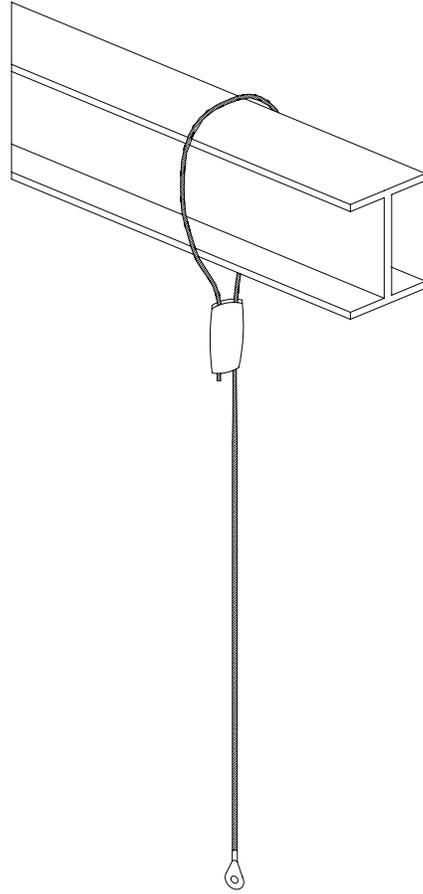

Figure 5
4. Adjust the cable length in the clamp so that the eyelet end of the cable is at the final height above the floor. (Figure 5)